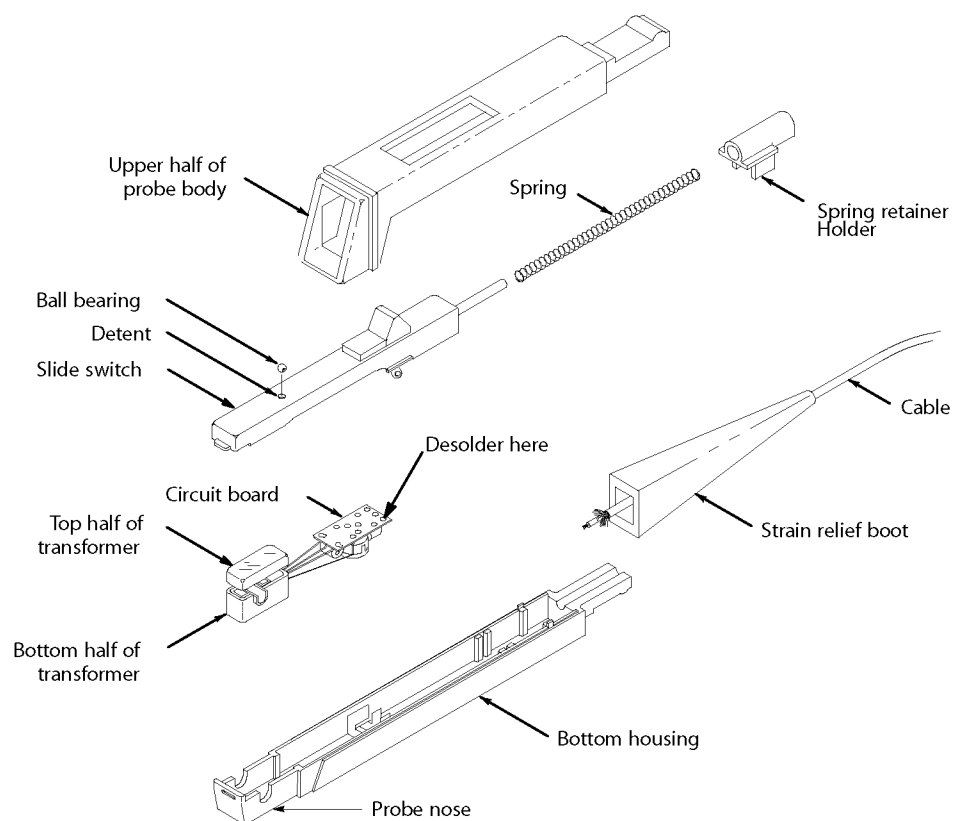

Figure 9: Disassembling the probe
Use the following procedure to disassemble the probe for cleaning or repair. You will need a low power soldering iron with a fine point. Work over a smooth, clean surface so that you can easily find any small pieces that may drop. (See Figure 9.)
8. Desolder the ground connection on the circuit board. (See Figure 9 on page 25.)